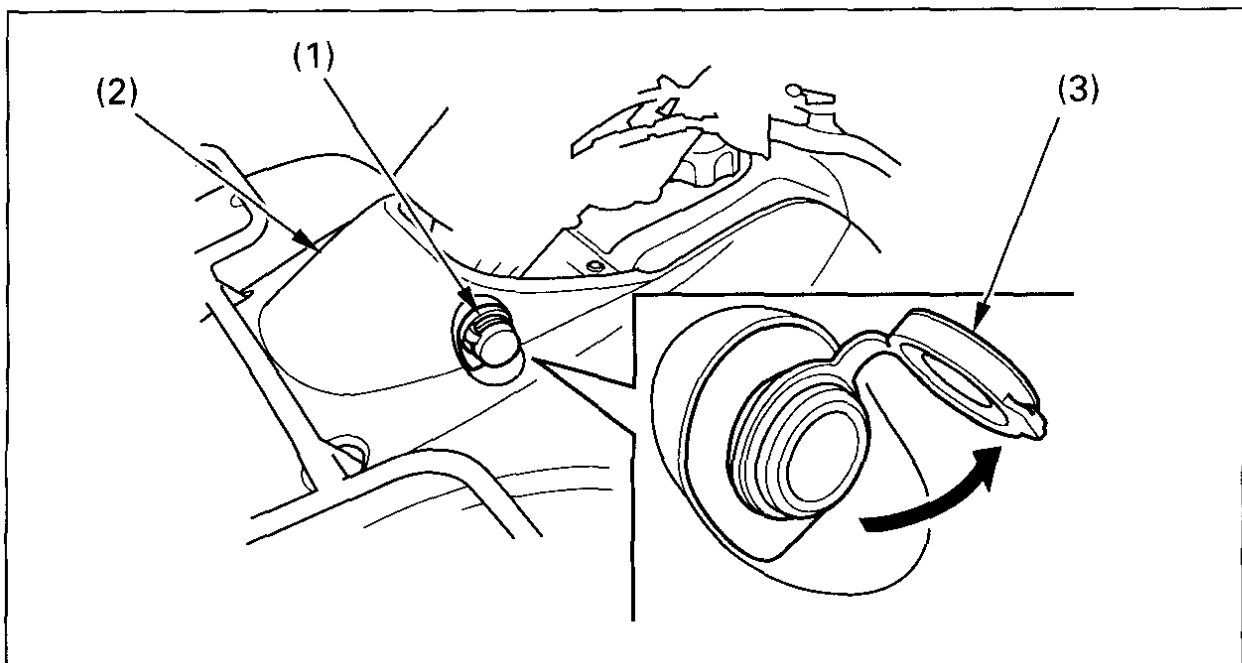

Fig. 2-33 (1) Accessory socket
The accessory socket (1) (Fig. 2-33) is attached to the left side of the front fender (2). You can use the accessory socket to power a trouble light, spotlight, CB radio, or cell phone, etc.